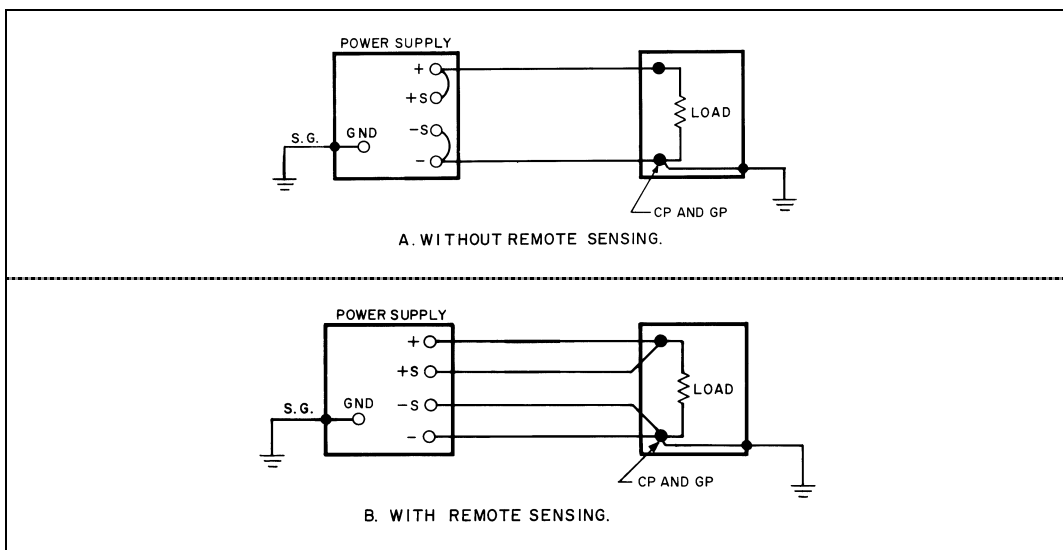

Figure 42. Preferred Ground Connections for Single Grounded Loads
c. Single Grounded Load--The load terminals of the grounded load must be designated as the DT's and the grounded terminal of the load is necessarily the CP (Figure 42).